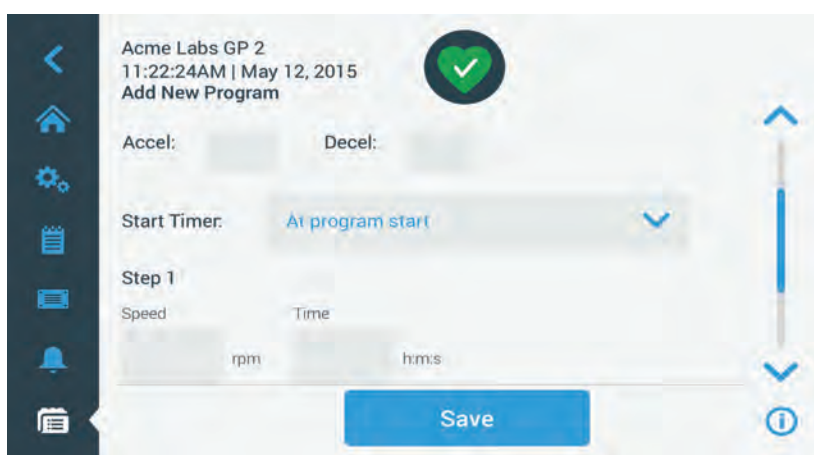

Figure 3-40: Programs -> Add New Program Screen, Second Set of Options
8. Tap the scroll bar on the right and drag further down to show the remaining options, as shown in Figure 3-40 below.